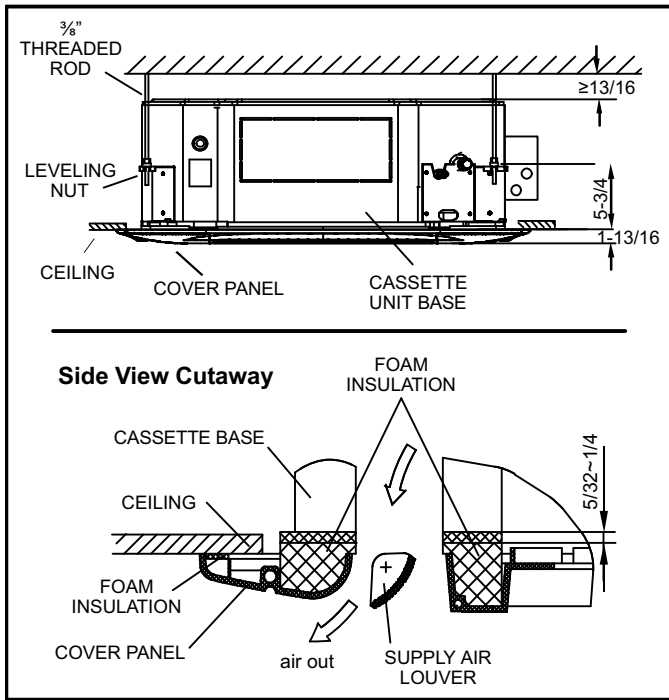

Figure 17. Cover Panel in Place
- 10 - Continue to tighten the cover panel securing screws until the insulation between the cover panel and the cassette base has been compressed to approximately 1/4". The cover panel must form a seal with the ceiling and the cassette base around the entire perimeter of the unit. See figure 17.